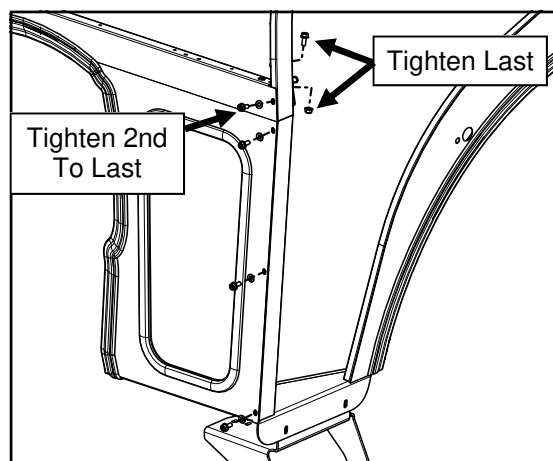

Fig. 6.3 (Left Side frame Installation)
6.3 Fasten side frame to cowl with bolts and plastic washers on the outside surface. Starting from the top, install all fasteners finger tight. Next, tighten lower (3) screws first, then tighten front upper (1) screw, and finally tighten top (1) screw and nut. See Fig. 6.3.